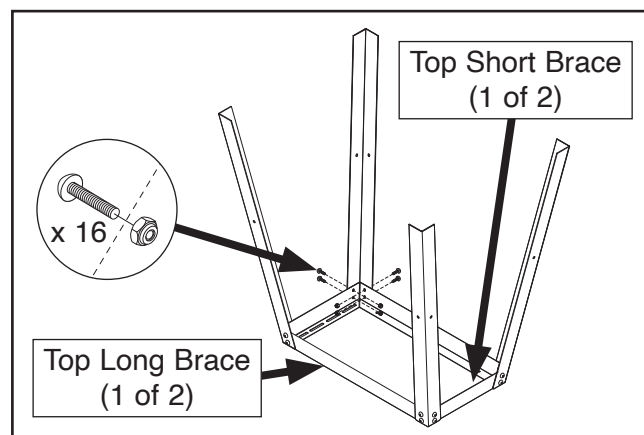

Figure 3. Attaching stand legs to top braces.
1. Arrange (2) top long braces and (2) top short braces in a rectangle, then attach stand legs to each corner using (16) M6-1 x 15 button head cap screws and (16) M6-1 lock nuts (see **Figure 3**). Only hand-tighten for now.